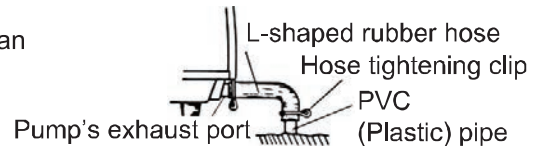

Figure 4
- II) Secure place of connection with a hose tightening clip (Figure 4).